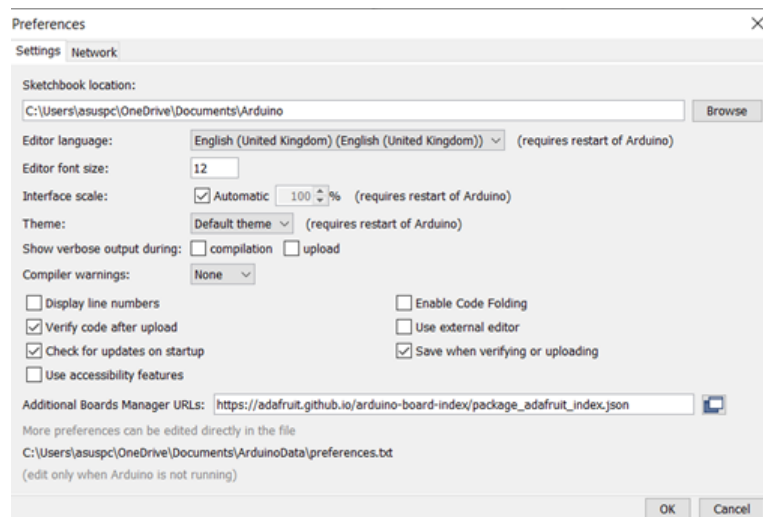

Figure 10: Preferenes tab
- In the **Additional Boards Manager URLs** option (Figure 10), write the link: `https://adafruit.github.io/arduino-board-index/package_adafruit_index.json`